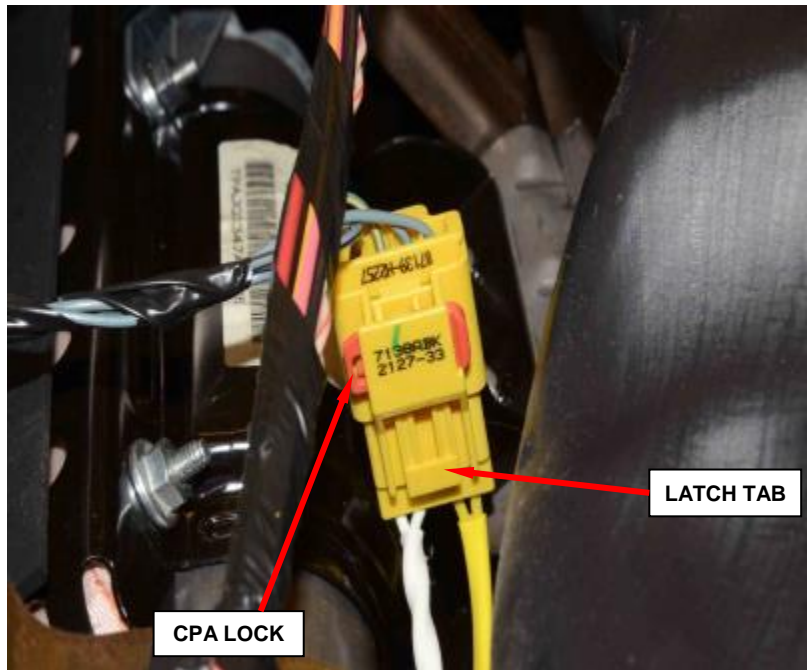

Figure 87 - Airbag Inflator Pigtail Connector
a. Slide the red Connector Position Assurance (CPA) lock on the connector toward the side of the connector (Figure 87).